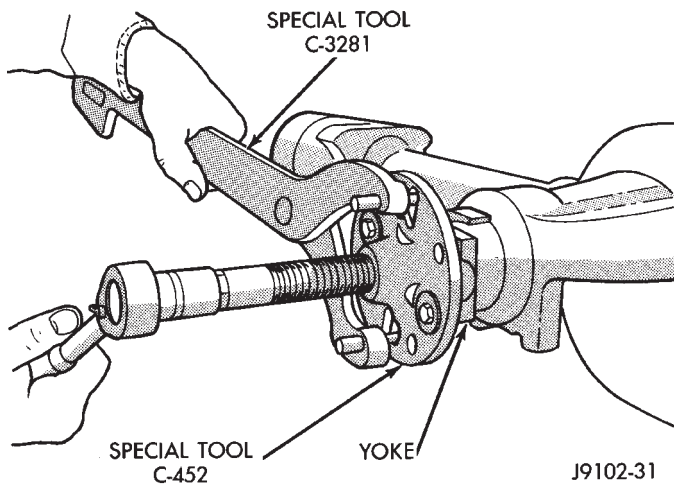
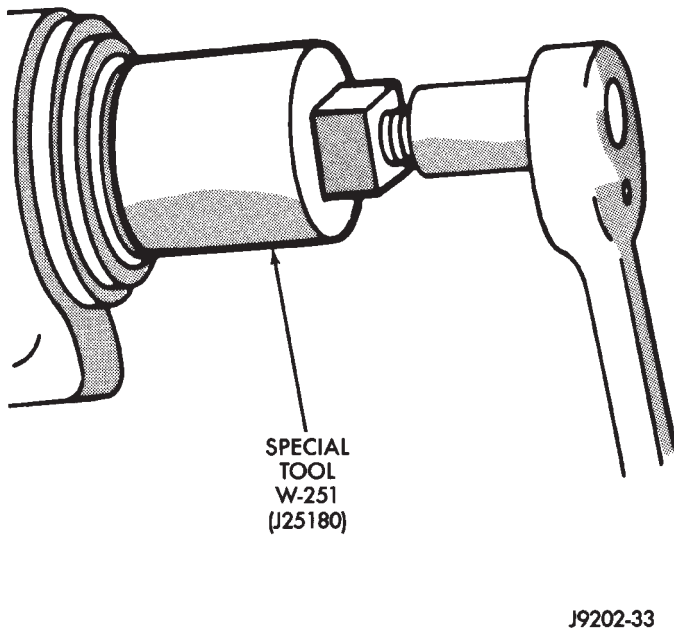

Fig. 2 Pinion Yoke Removal
Fig. 3 Seal Removal
(1) Raise and support the vehicle.
(2) Mark the drive shaft yoke and pinion yoke for installation alignment reference.
(3) Remove the drive shaft from the yoke.
(4) Rotate the pinion gear three or four times.
(5) Measure the amount of torque (in Newton-meters or inch-pounds) necessary to rotate the pinion gear with a torque wrench. Note the torque for installation reference. **It must be known to properly adjust the pinion gear bearing preload torque after seal installation.**
(6) Remove the pinion yoke nut and washer. Use Remover C-452 and Wrench C-3281 to remove the pinion yoke (Fig. 2).
(7) Mark the positions of the yoke and pinion gear for installation alignment reference.
(8) Use Remover W-251 to remove the pinion gear seal (Fig. 3).